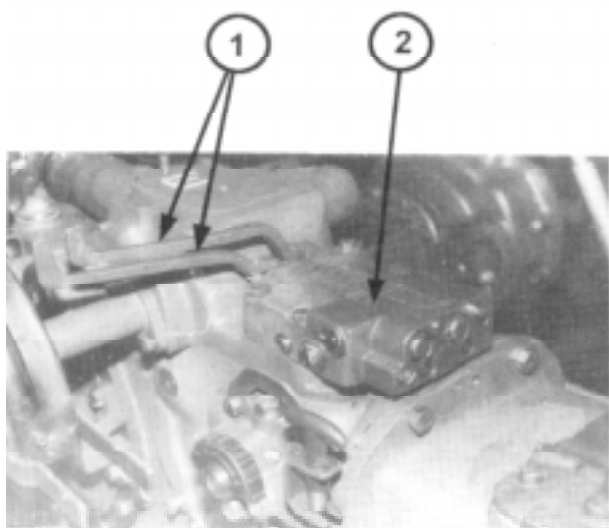

Figure 8
6. Refer to Figure 8 for the correct Installation of Remote Control Valve Linkage. Ensure the correct operation of the control levers.